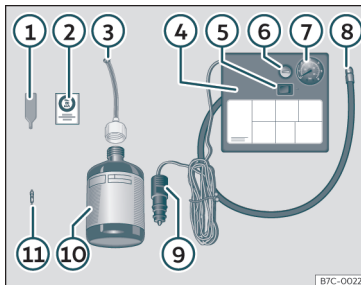

Fig. 83 Standard display: contents of the anti-puncture kit.
>>> **Fig. 83:**
Screw in the inflator tube >>> Fig. 83 ⑧ again and check the pressure on the gauge ⑦.